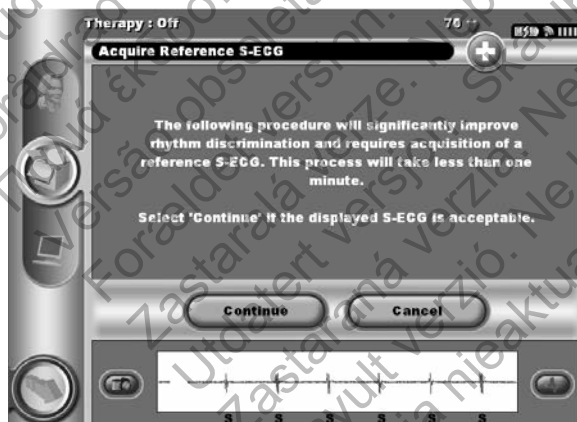

Figure 29: Acquire Reference S-ECG screen
7. Following the optional optimization process, the Acquire Reference S-ECG screen is displayed (Figure 29). Select the Continue button to acquire a reference S-ECG.